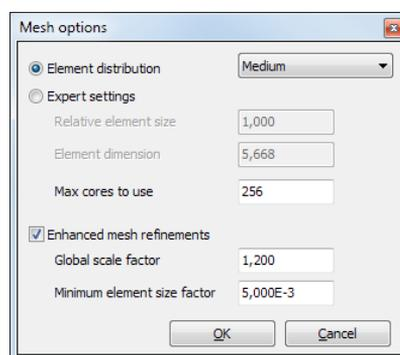

Figure 1.10 *Mesh options* window
- Click the *Generate mesh* button in the side toolbar or select the *Generate mesh* option in the *Mesh* menu. Change the *Element distribution* to *Coarse* in the *Mesh options* window (Figure 1.10) and click *OK* to start the mesh generation.